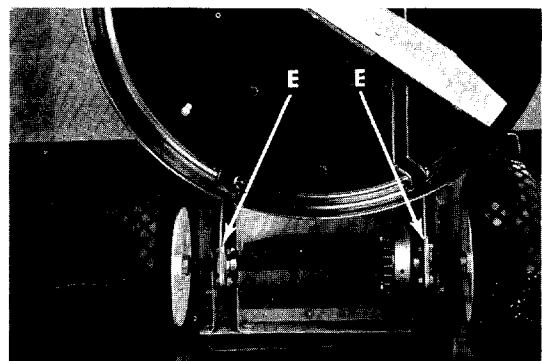

FIGURE 19. LUBRICATION
- Rear Axle Bearings.** Lubricate the rear axle bearings after every 25 hours of operation with SAE 30 oil. Wipe up excessive oil with a rag. See figure 19.
- Chain.** Remove the chain once each season, clean in kerosene, dry and lubricate with a rag saturated in SAE 30 oil. See figure 19.